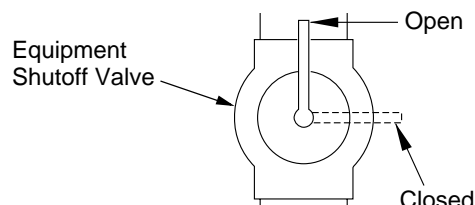

Figure 31 - Equipment Shutoff Valve
1. Close equipment shutoff valve (see Figure 31).
1. Open equipment shutoff valve (see Figure 31, page 14).